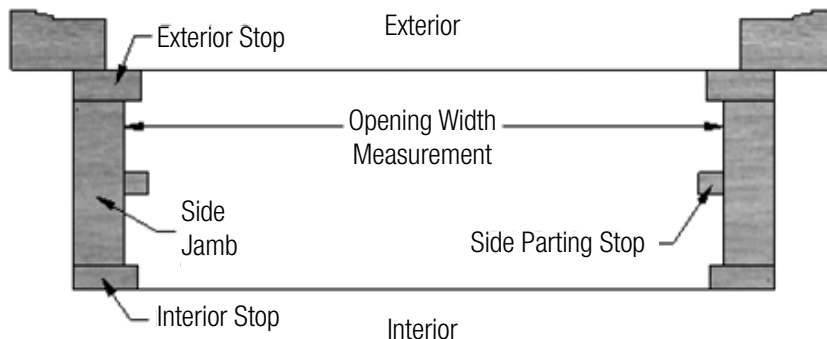

FIG. 1
- A) Measure the opening width of the existing frame at the top, middle and bottom of the frame. (Fig. 1 & 2) Verify the replacement window frame width is approximately 1/2" smaller than the existing frame width.